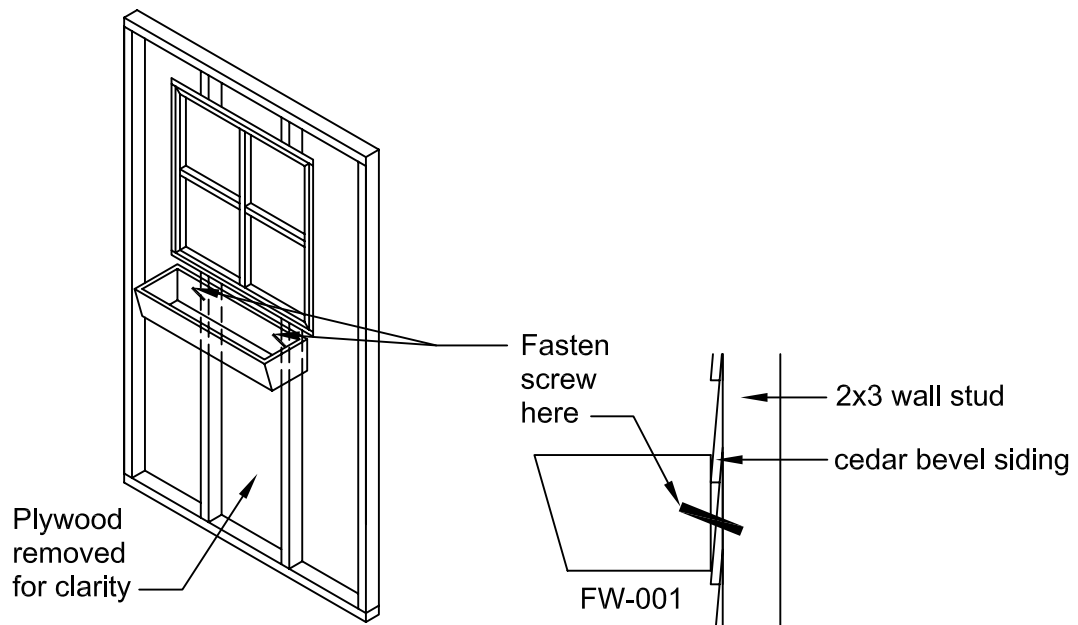

FIGURE S31
- The planter box is fasten with 3" screws which are affixed through the 1x2 batten trim under the window and into the stud. See Figure S31 for details.